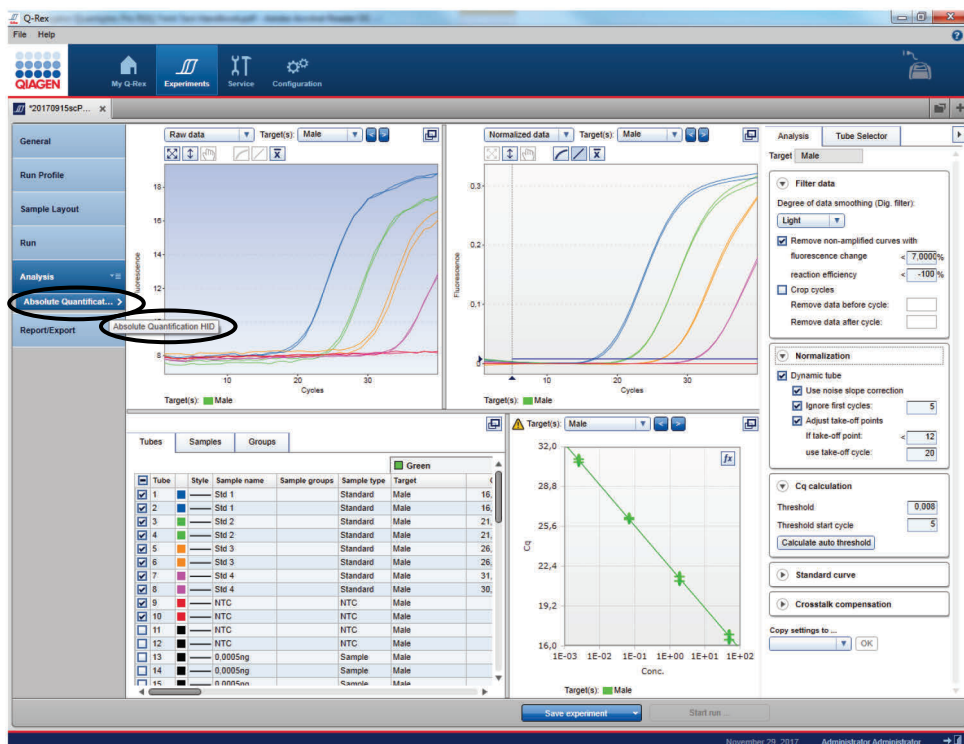

Figure 29. Setting analysis method in Q-Rex.
- Confirm that the correct analysis method is selected (Absolute Quantification HID; Figure 29). If yes proceed to step 6, if not proceed to next step.